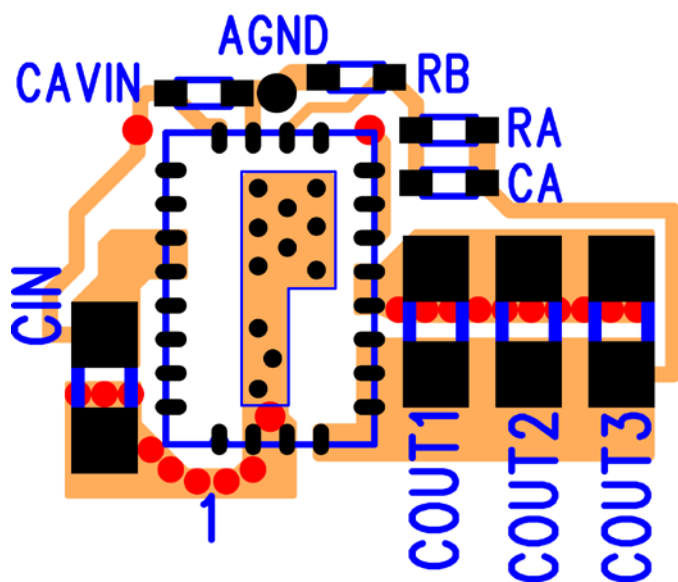

Figure 9. Optimized Layout Recommendations
**Recommendation 5:** AVIN is the power supply for the small-signal control circuits. It should be connected to the input voltage at a quiet point. In Figure 9 this connection is made at the input capacitor. Connect a 1 $\mu$ F capacitor from the AVIN pin to AGND.
**Recommendation 6:** The layer 1 metal under the device must not be more than shown in Figure 9. See the section regarding exposed metal on bottom of package. As with any switch-mode DC/DC converter, try not to run sensitive signal or control lines underneath the converter package on other layers.